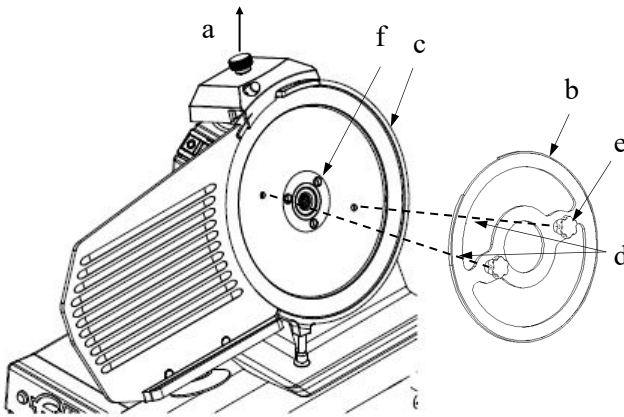

FIG. no. 12 - Placing the mask in order to remove the blade
The blade cleaning must be carried out with cut resistant gloves (3) and a wet cloth. To clean the blade on the opposite surface, it is necessary to remove the blade (see FIG. no. 12).